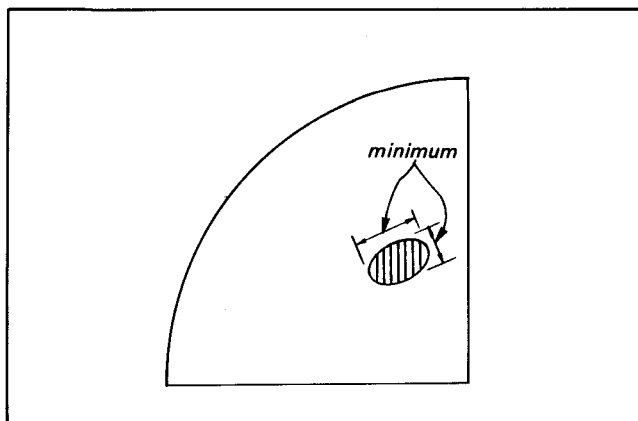

Fig. 2-29
- 3) Adjust with RV511 and RV512 so as to make the size of spot minimum. (Fig. 2-29)